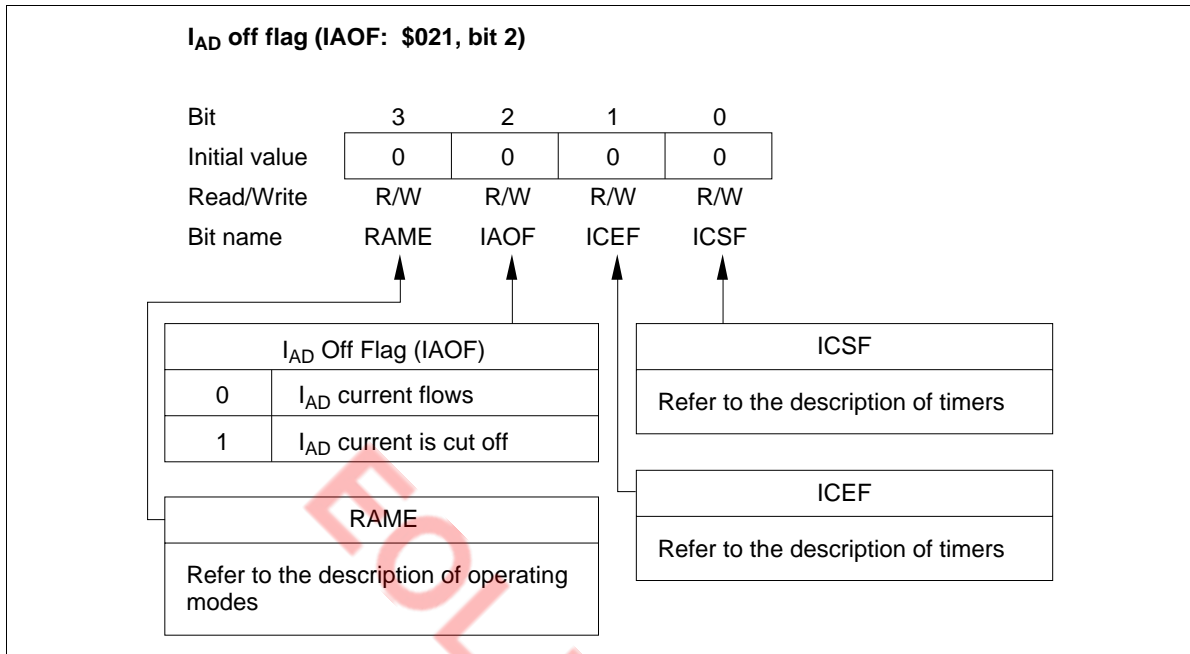

Figure 67 IAD Off Flag (IAOF)
**IAD Off Flag (IAOF: \$021, Bit 2):** By setting the IAD off flag to 1, the current flowing through the resistance ladder can be cut off even while operating in standby or active mode, as shown in figure 67.